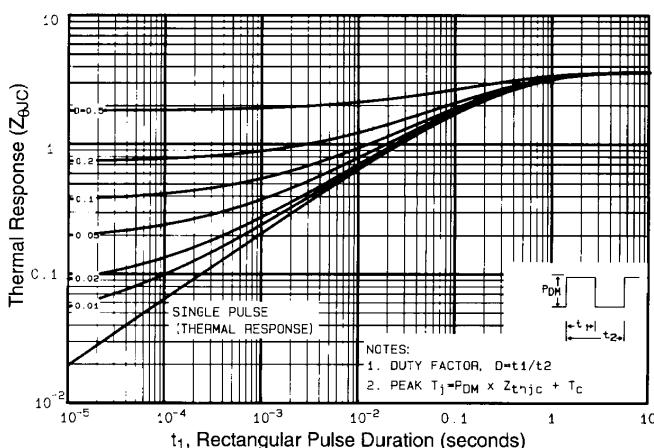

Fig 11. Maximum Effective Transient Thermal Impedance, Junction-to-Case
① Repetitive rating; pulse width limited by max. junction temperature (See Figure 11)
③ $I_{SD}\leq 4.9\text{A}$, $di/dt\leq 80\text{A}/\mu\text{s}$, $V_{\text{DD}}\leq V_{(\text{BR})\text{DSS}}$, $T_J\leq 150^\circ\text{C}$
⑤ $t=60\text{s}$, $f=60\text{Hz}$
② $V_{\text{DD}}=50\text{V}$, starting $T_J=25^\circ\text{C}$, $L=15\text{mH}$